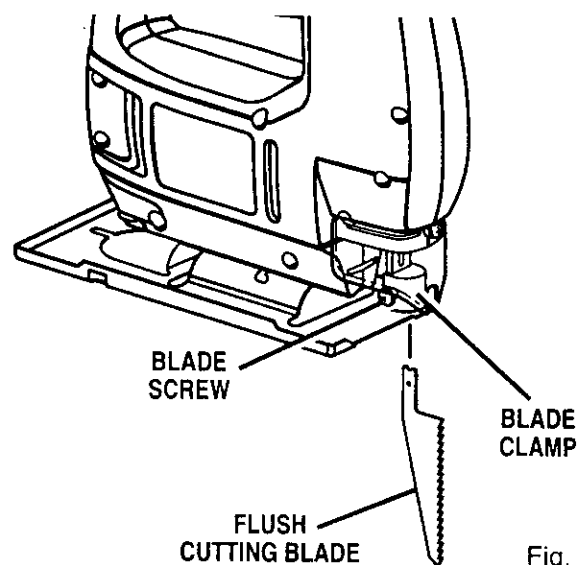

Fig. 12
- Loosen blade screw and insert flush cutting blade as far as possible into slot in blade clamp as shown in figure 12.